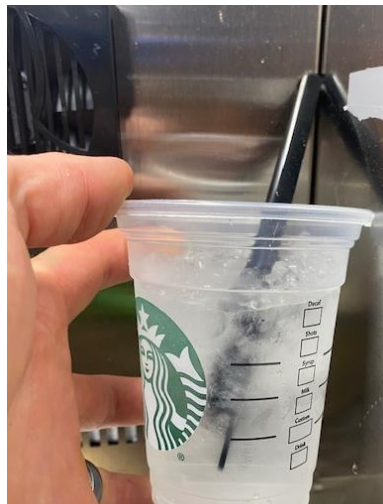

Figure 63: Thermistor in ice water bath.
- c. Place the thermistor in liquid of known temperature. **See Figure 63.** The best option would be to put it in an ice water bath which would be at approximately 32°F. Please note that it will take a few minutes for the thermistor to reach the same temperature as the water in the ice bath.